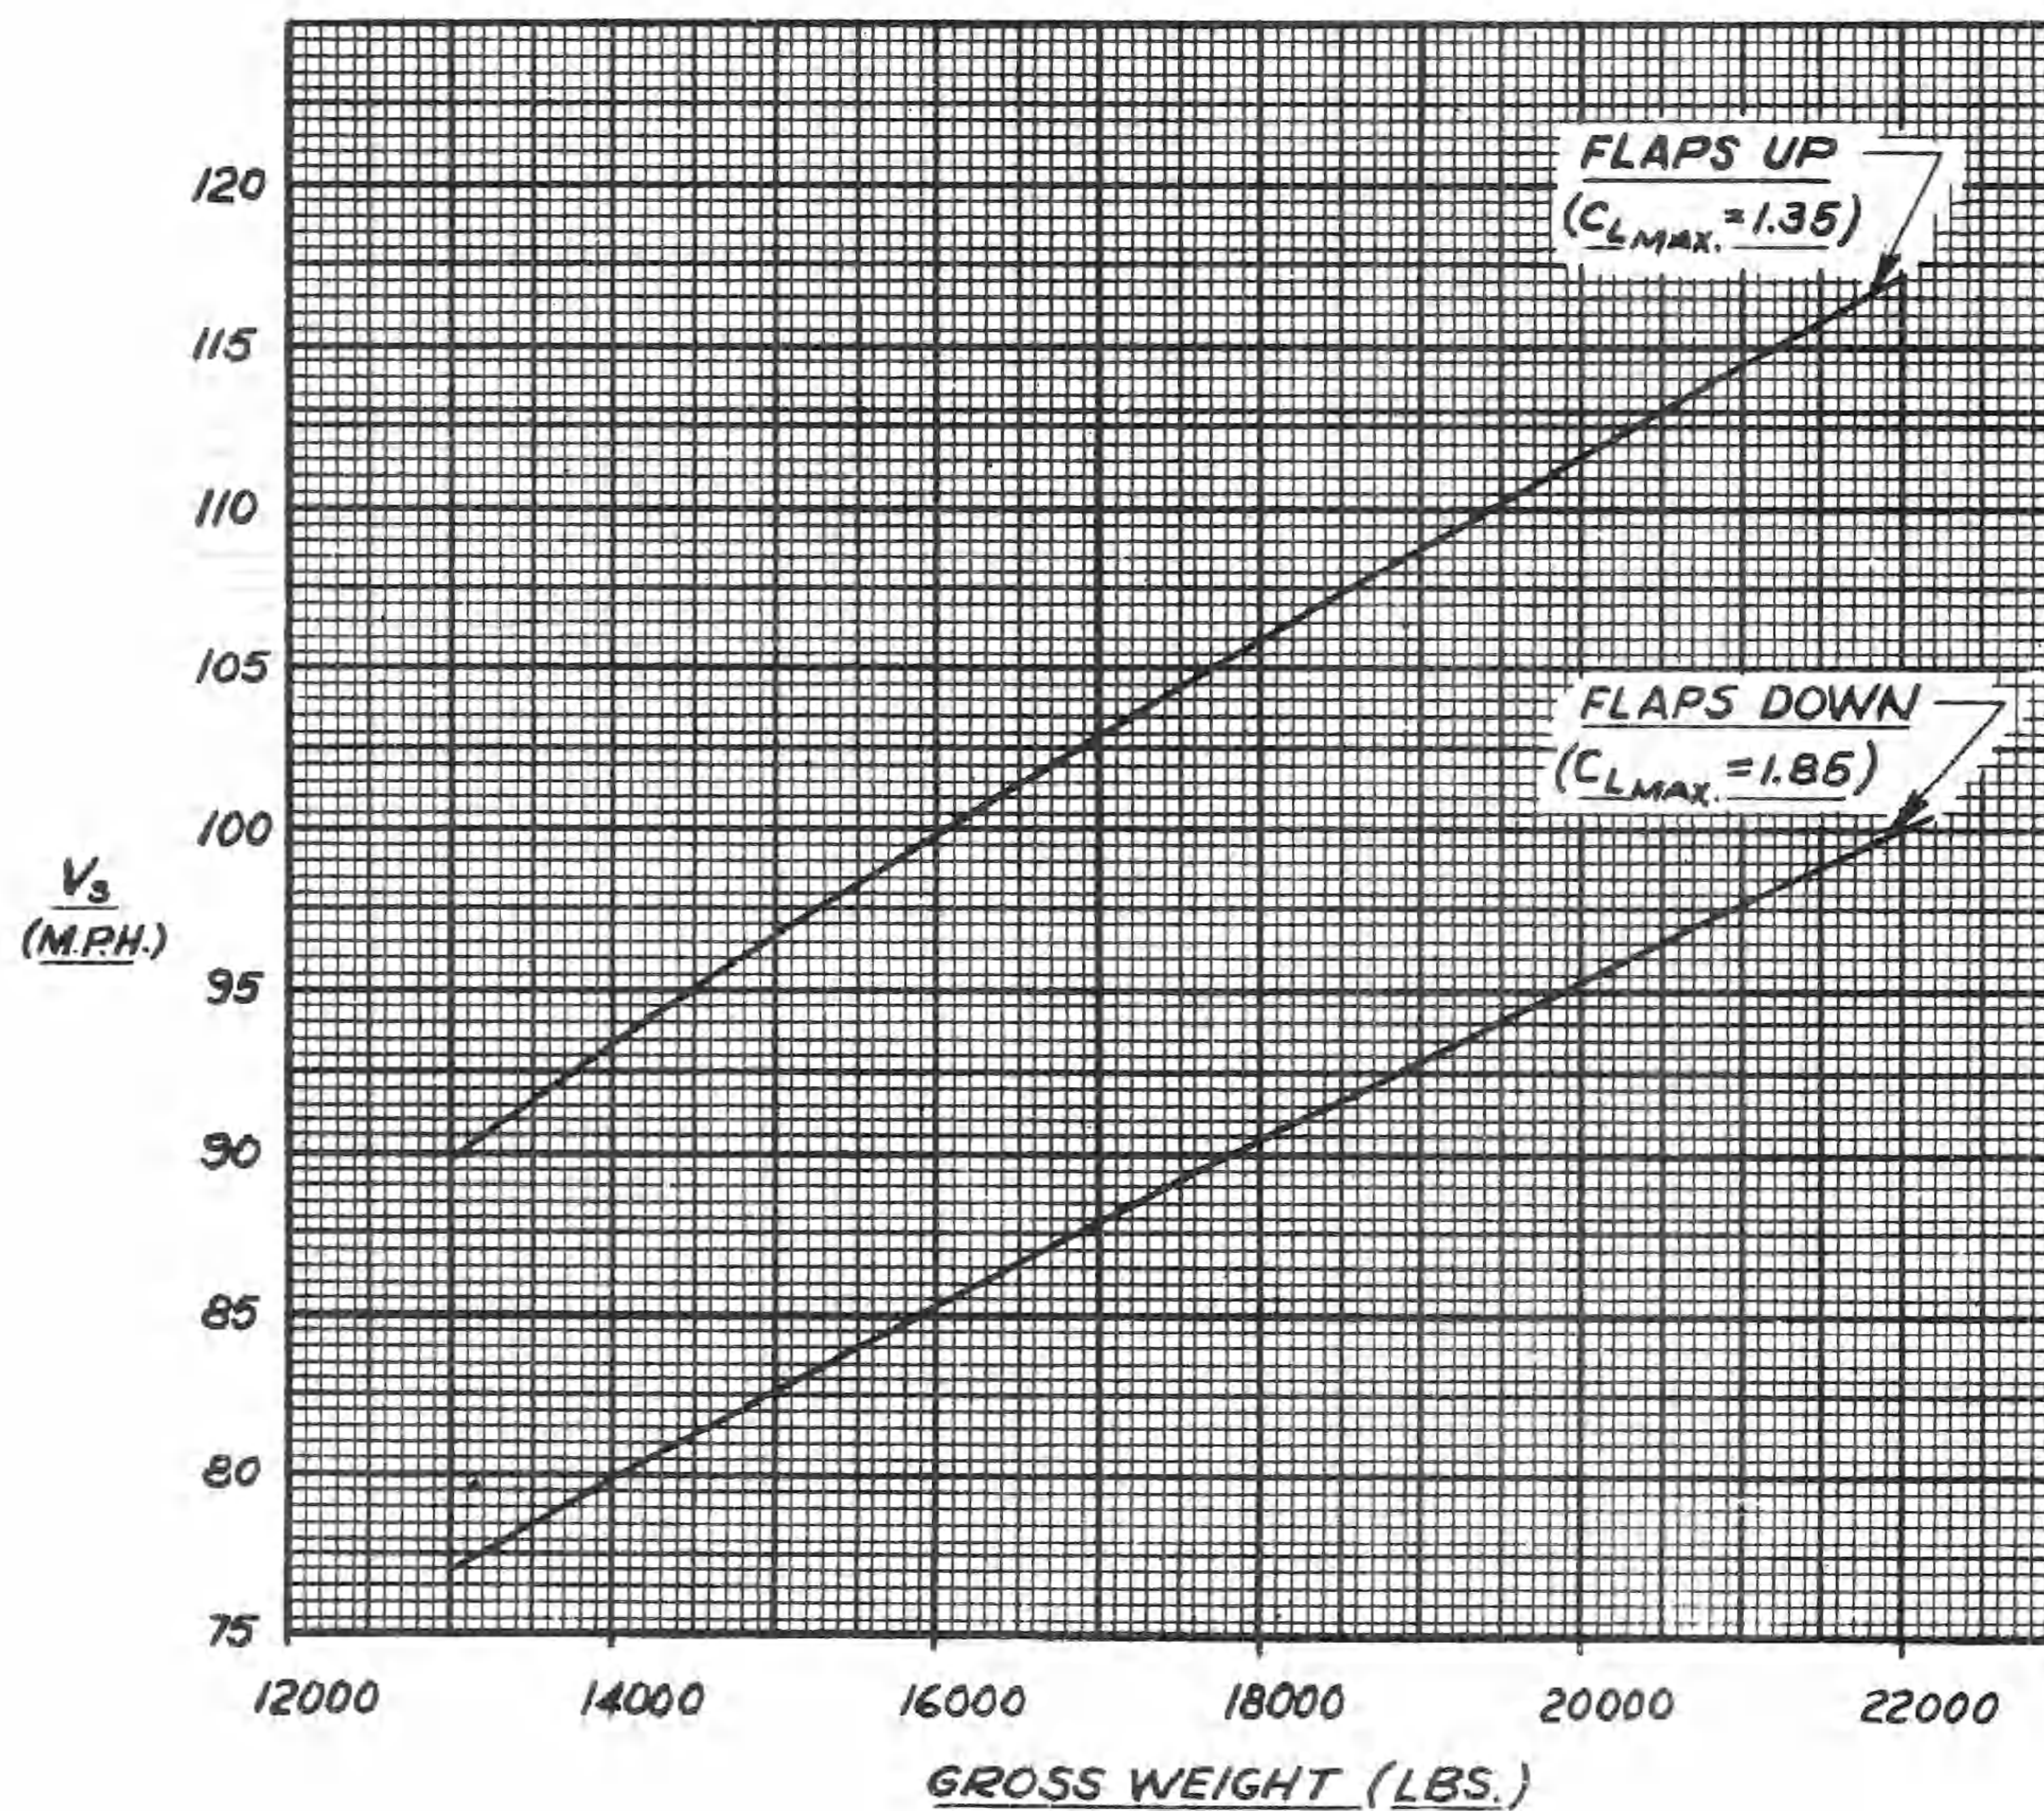

FIG. 11 -STALLING SPEED CHART
(4) Do not exceed a diving engine speed of 2760 R.P.M.
(5) To provide sufficient margin of safety against stalls, the speed of glide with flaps down must be established at not less than 15 M.P.H. above the stalling speed corresponding to the gross weight of the airplane. See T. O. No. 01-1-60. The stalling speeds noted below are given for arbitrary gross weights based on estimates. For stalling speeds corresponding to intermediate gross weights, refer to the stalling speed chart, Fig. 11.